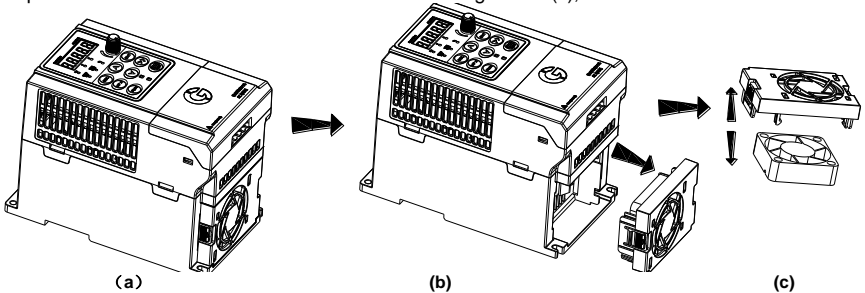

Figure 8-1 Remove the fan
Step1: Press both sides of the elastic buckles for the fan as figure 8-1(a), simultaneously pull it out in parallel, and remove fan cover from inverter
Step2: Press the elastic buckles of fan lead terminal towards internal side as shown in figure 8-1(b), simultaneously pull out the fan lead terminal
Step3: Draw out the buckles of fan cover shown as figure 8-1(c), then remove fan from the cover